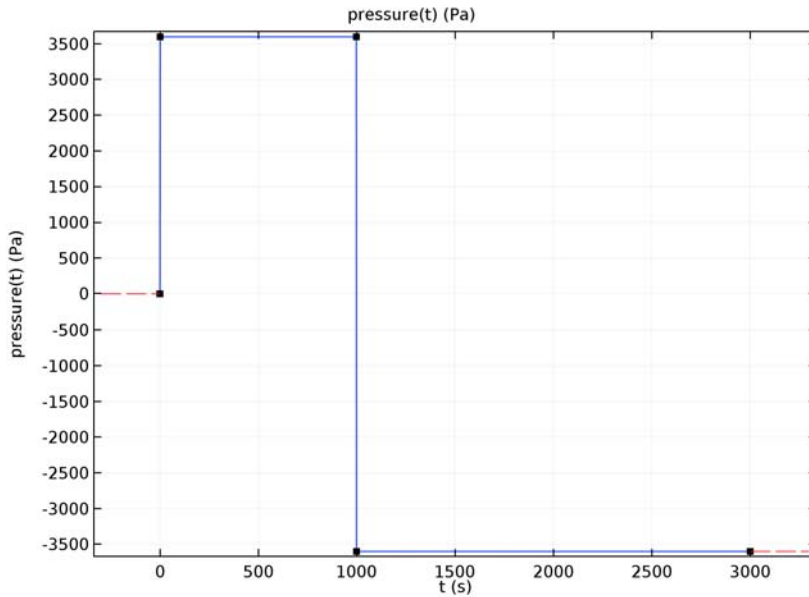

Figure 1: Internal pressure versus time (blue line). The red line is the default extrapolation of the pressure outside the defined domain.
The following steps create the plot in Figure 1:
- The internal pressure step up from 0 to 3600 Pa in 1 s at  $t = 1$  s and change sign within 1 s at  $t = 999$  s as illustrated in Figure 1 below.